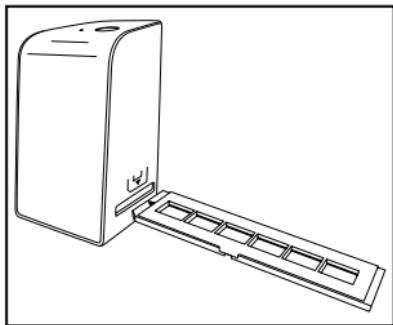

Figure 1
- ◆ Unlock the catch on the front of the negative holder ⑤ and open the holder.
- ◆ Now insert the negative holder ⑤ with the triangle marking at the front and visible into the slot ④ on the right (see figure 1).
- ◆ Push the negative holder ⑤ into the slot ④ until it audibly clicks into the first position. For additional negatives, push the negative holder ⑤ further in until it audibly clicks into the next position.